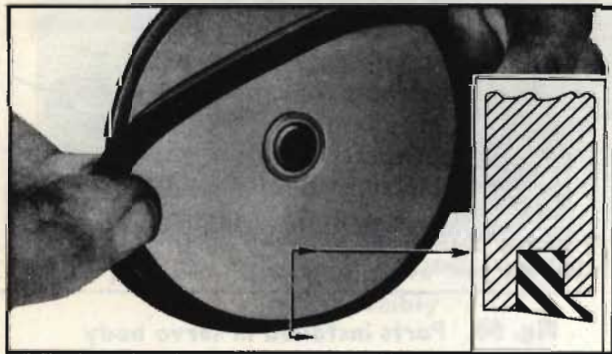

Fig. 51. Installation of servo piston seal
4. Replace worn, damaged or dried out piston seals. When replacing piston seals, be sure that the seal lip fits over the smaller diameter land (Fig. 51).